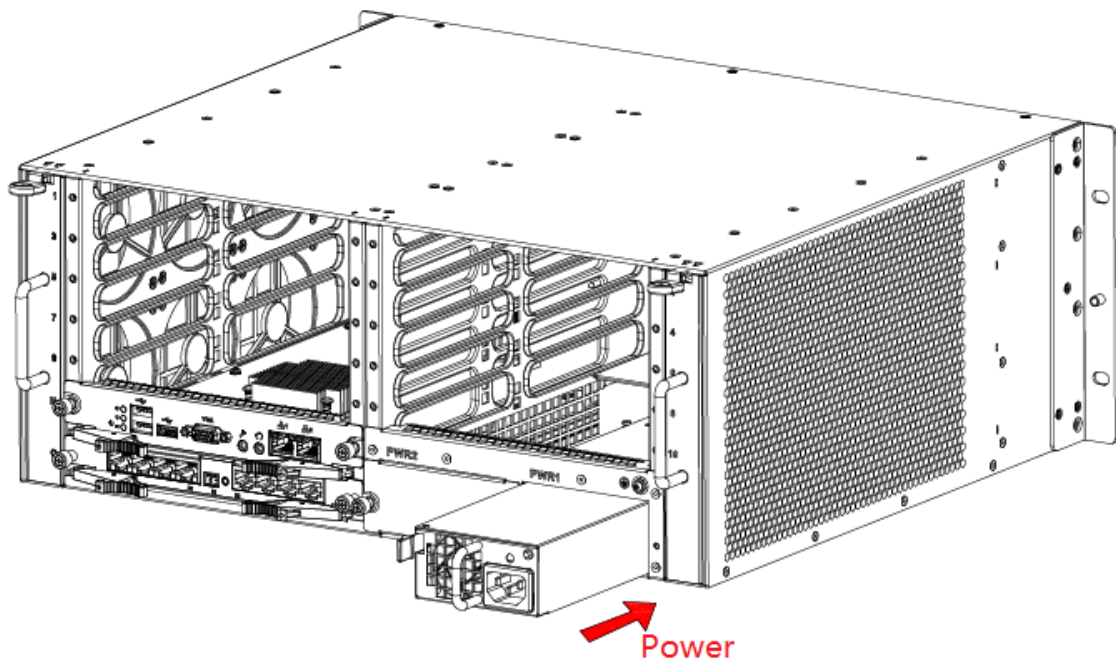

Figure 1-8
Step 5 Insert power supply and fix it, as shown in Figure 1-8.